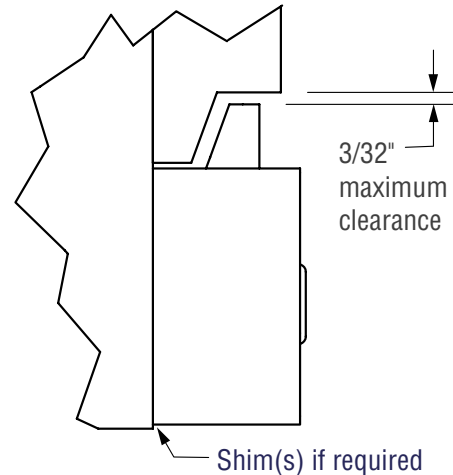

Figure 4-4, Lower Hook Clearance
9. Install the bolt-on lower hooks. Inspect clearance between the carriage and the lower hooks. Adjust the lower hooks for a maximum clearance of **3/32"** (see Figure 4-4).